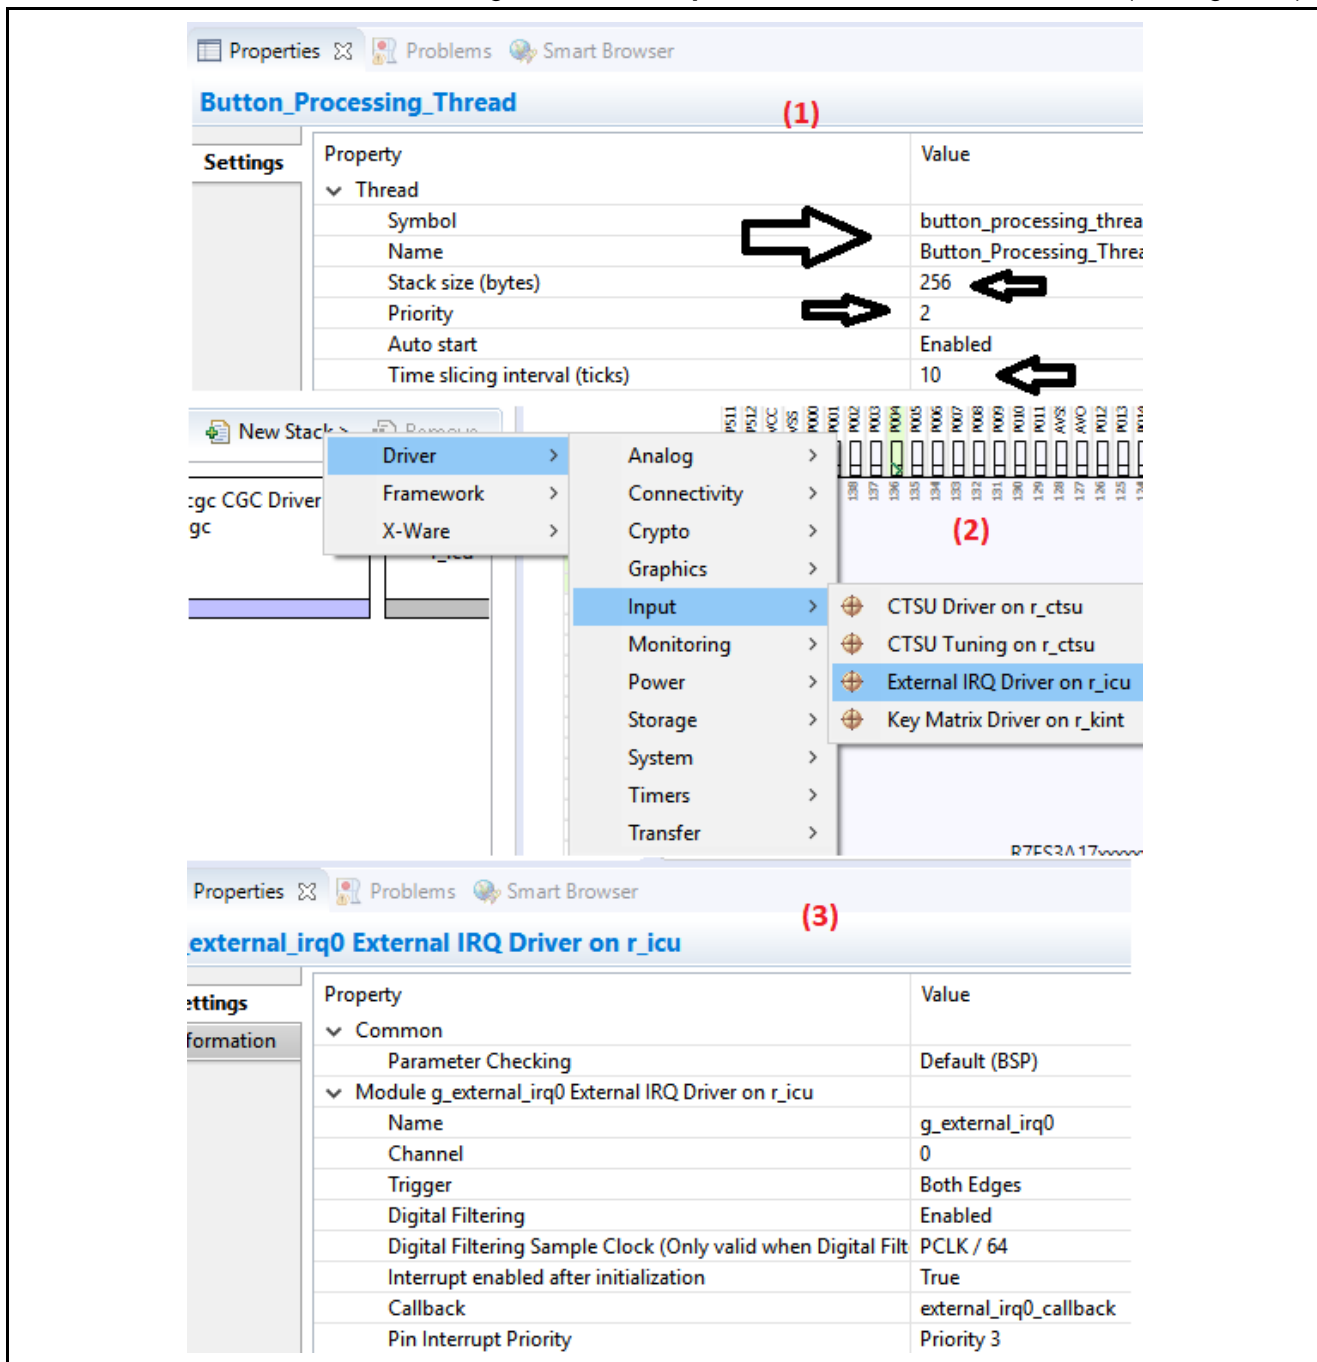

Figure 14. Adding IRQ Driver Module
2. In the **Property** of this new thread, update the **Symbol Name** to `button_processing_thread` (see Figure 14).
3. Include the **External IRQ Driver on r_icu** module by clicking the **New Stack** button (+) sign in the **HAL/Common Stacks** window and go to **Driver > Input > External IRQ Driver on r_icu** (see Figure 14).